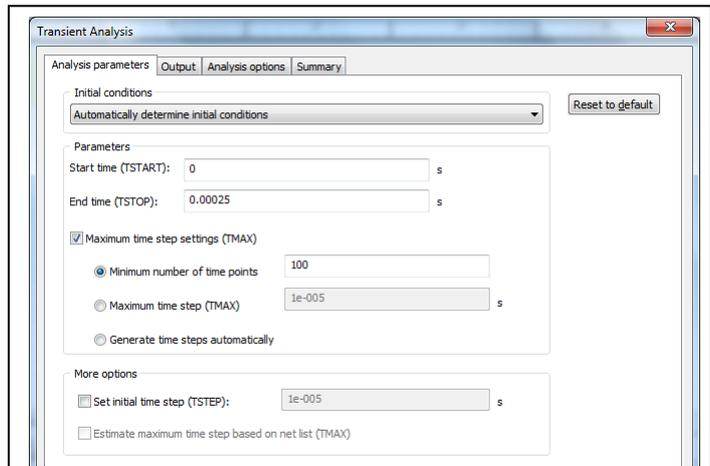

Figure 14(a) Transient Analysis Start/Stop time
- Set the Transient Analysis Output as shown in Figure 14(b) below, i.e.: